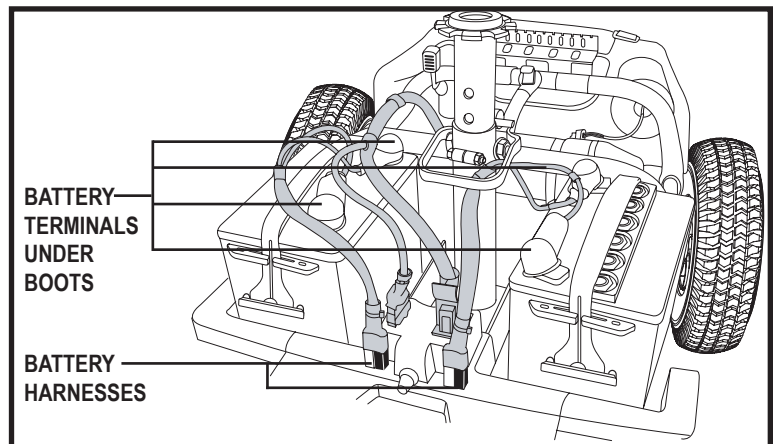

Figure 12. Battery Harnesses an Battery Cables
3. Disconnect the battery harness by pulling it straight up. **See figure 12.**